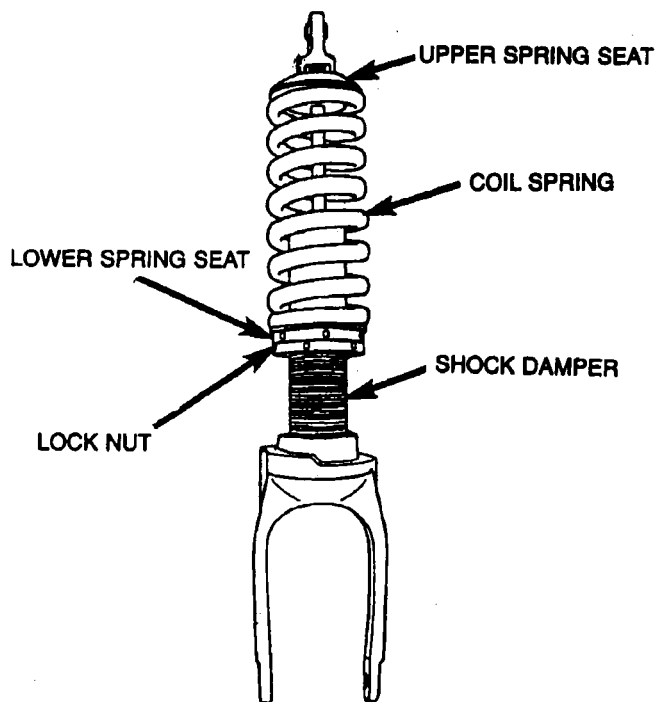

Figure 68 - Rear Shock Assembly Shown
1. Remove the front and/or rear shock absorber assemblies from the vehicle (Figure 68).
3. Using two adjustable pin spanner wrenches (Snap-on P/N APS357B, OTC P/N JHW-0-472 or equivalent), one on the lower spring seat and the other on the lock nut below it, loosen and back off the lock nut (Figures 68 and 69).